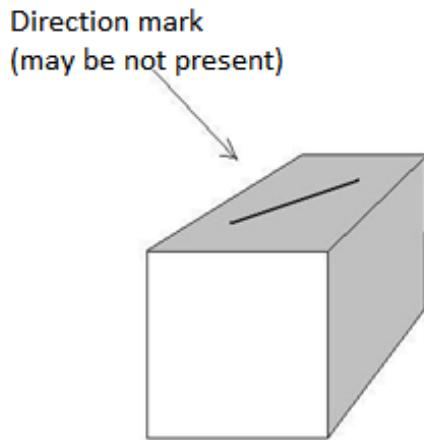

Figure 34 Direction mark on the SH crystal (may be not present in some systems)
5. Put a new crystal to the holder (make sure that arrow, or a dash, on the crystal is in the same position as it was on the old crystal, as in Figure 34).
4. Now carefully remove the crystal (note the position of crystal marking as in Figure 34).